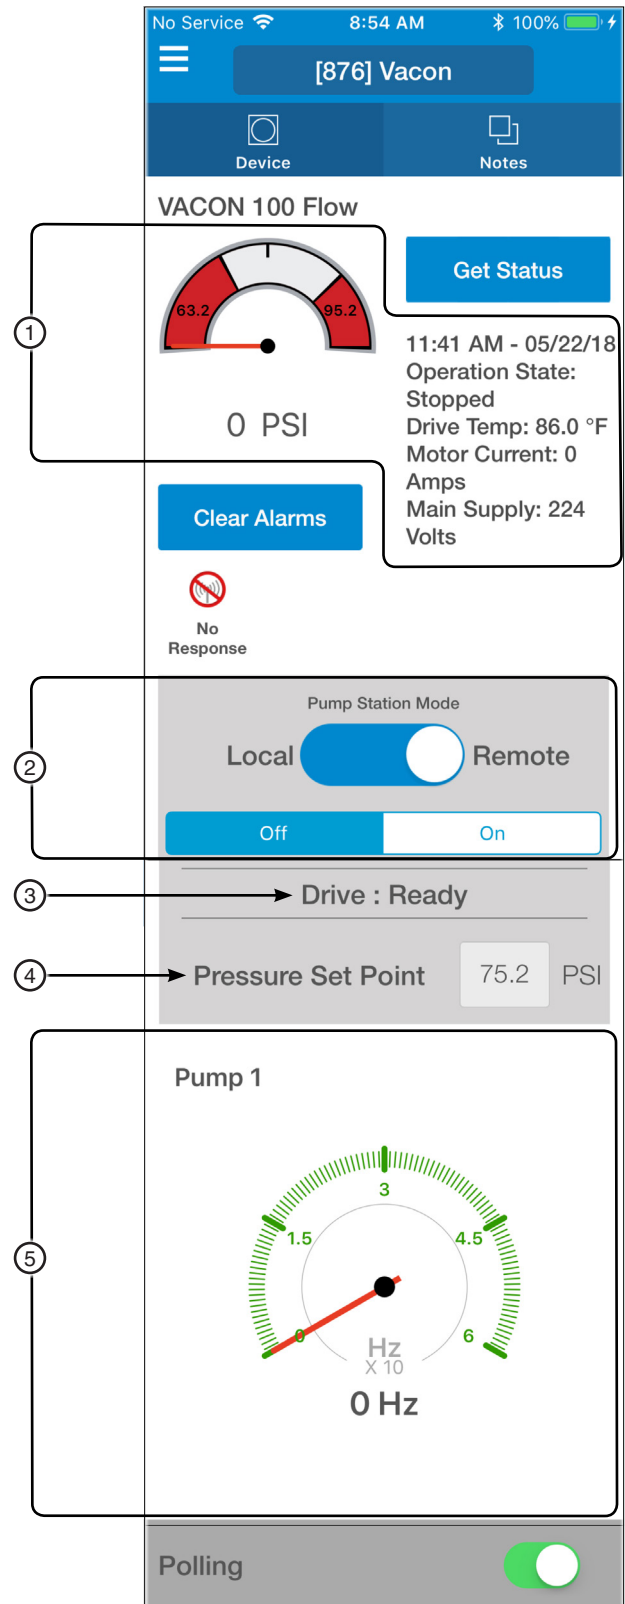

Figure 49-1 1. Operation State 4. Pressure Set Point
Operation State (1): The Device status screen includes graphic icons for the device and status details. Graphic icons for each pump are also displayed. See Figure 49-1.